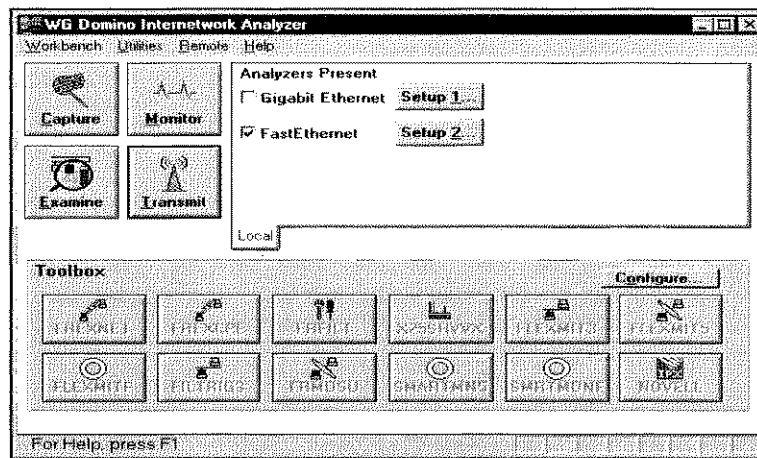

Figure 2-3. Domino Workbench screen with DominoGigabit and DominoFE analyzers installed
When you power up the DominoFE analyzer, the system performs a self-test and starts the system software. After the Microsoft Windows operating system starts, the Workbench screen (Figure 2-3) appears. If it does not, choose the Domino icon in the Start-Up group to open the Workbench screen.
1. From the Workbench screen (Figure 2-3), choose the **Setup** button next to the FastEthernet interface that you want to set up.
1. From the Workbench screen (Figure 2-3), choose the **Monitor** button.